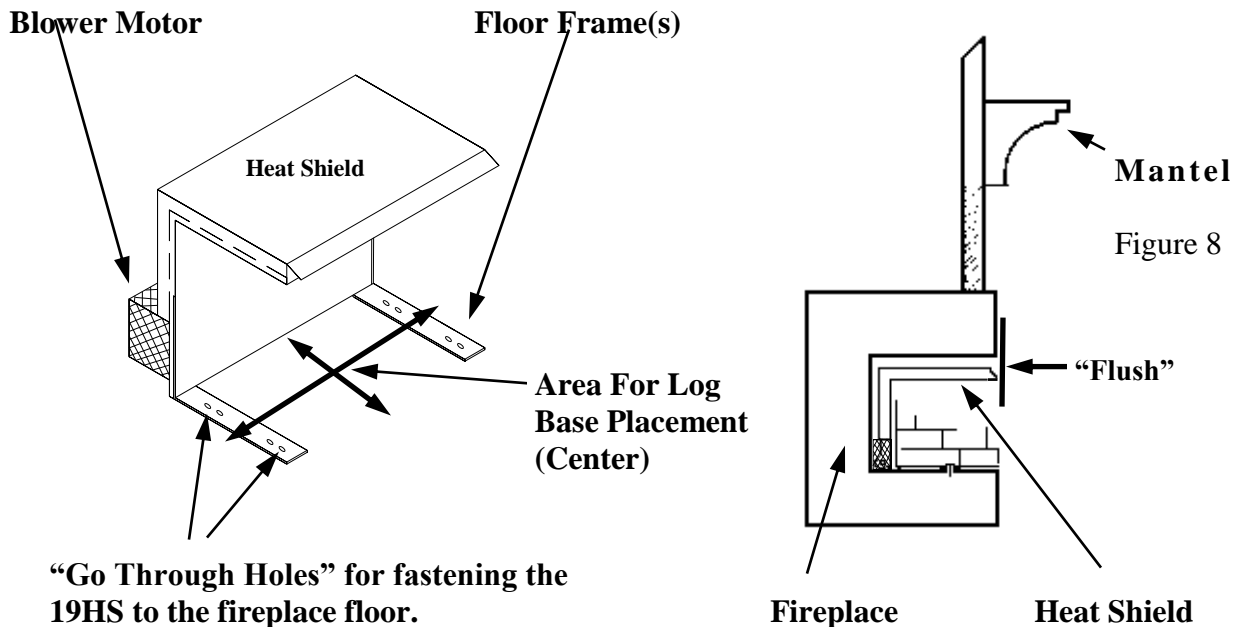

Figure 8.
**NOTE:** Centrally locate the Heat Shield in the fireplace and place it deep enough into the fireplace to accomplish adequate draft (if use as a vented heater is planned). Ensure that the Heat Shield front is inside the front edge of the fireplace. See Figure 8. Using the screws and anchor provided, fasten the Heat Shield to the floor of the fireplace. On each side of floor frame of Heat Shield base, there is a “go through hole”. Position the Heat Shield as described above. Mark the hole for drilling. See Figure 8.